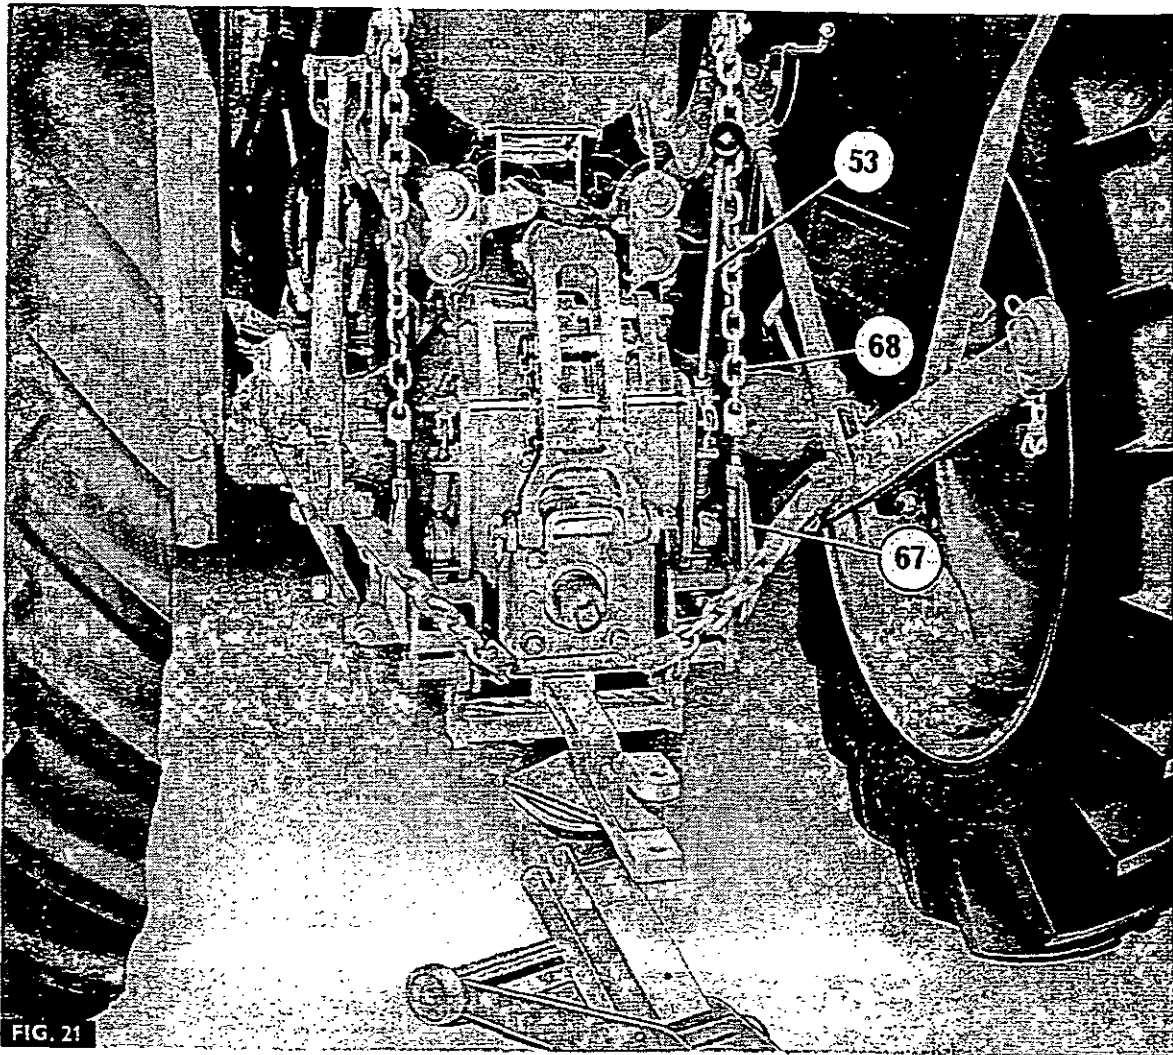

FIG. 21
15. Raise the lower links and lift rods and fit the new, longer clevis pins (66), securing them with split pins.
16. Fully tighten the lift arm extension bolts (63).
17. Fig. 21. Screw a nut on to the threaded portion of each lift chain (68) then screw an eye (67) on to each chain.